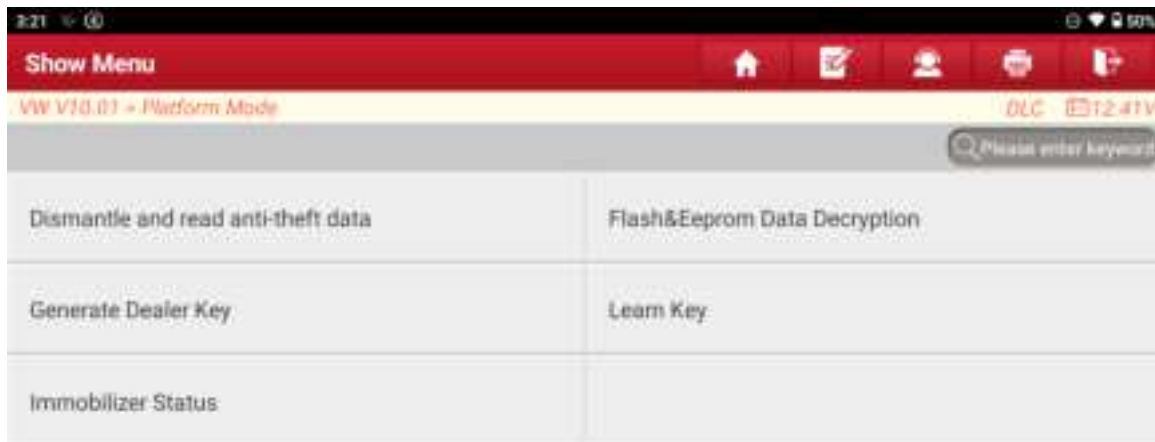

Figure 23
22. Choose [Generate Dealer Key], as shown in Figure 23.